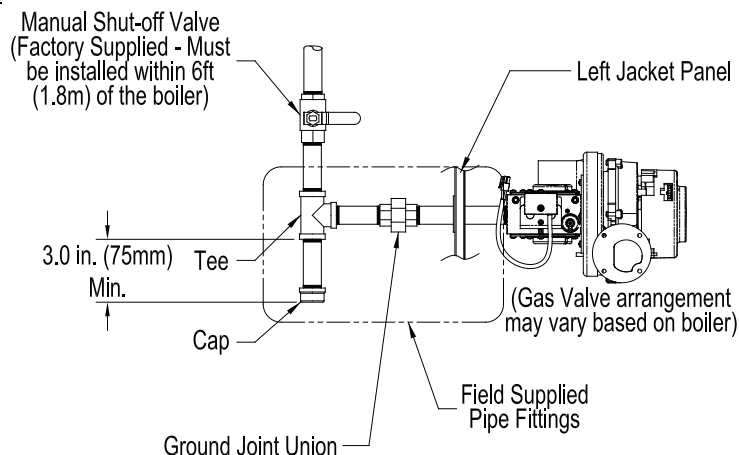

Figure 35: Recommended Gas Piping
- d. Install sediment trap, ground-joint union and manual shut-off valve upstream of mounted factory supplied manual shut-off valve. See Figure 35 “Recommended Gas Piping”.
- h. Install sediment trap, ground-joint union and manual shut-off valve upstream of mounted factory supplied manual shut-off valve. See Figure 35 “Recommended Gas Piping”.
2. **Individual module (boiler) recommended gas piping detail** - see Figure 35.